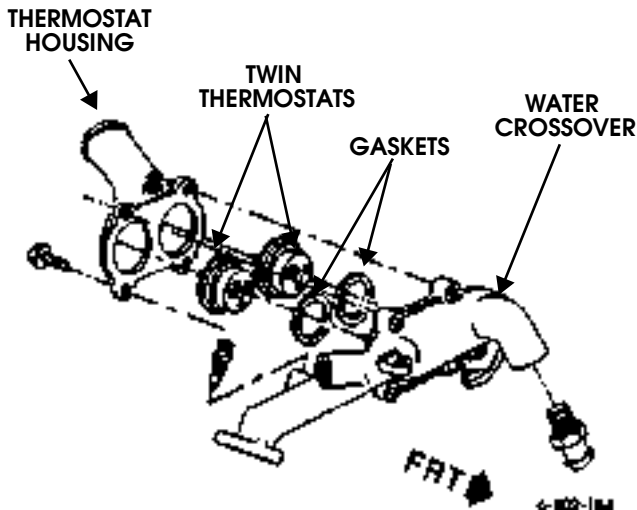

Figure 4-22: Thermostat and Cover Removal and Installation
3. Remove thermostat cover and gasket (Figure 4-22).